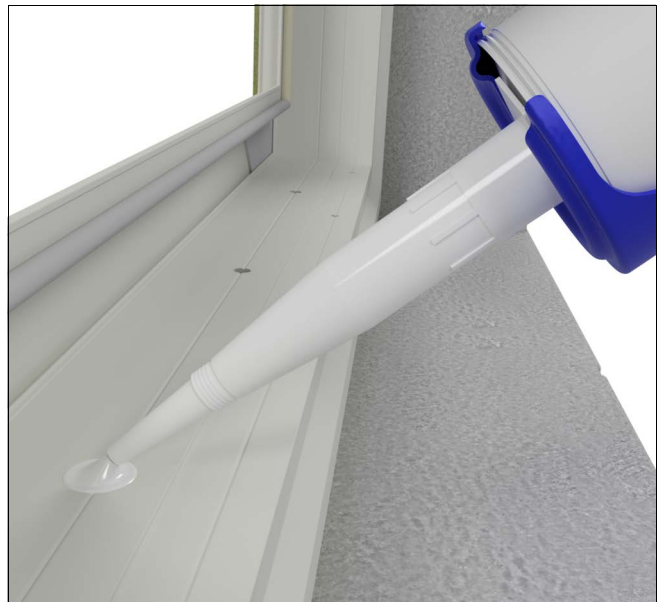

Figure 13
7. Inject sealant into and around the installation holes in the frame. See Figure 13.